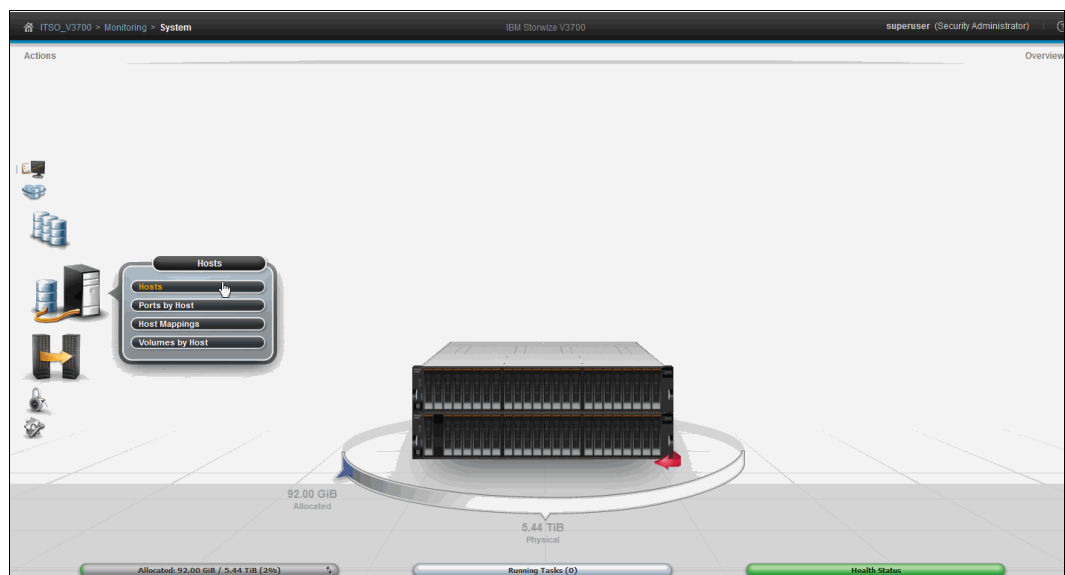

Figure 4-31 Opening the hosts view
1. From the IBM Storwize V3700 GUI, open the hosts view by navigating to **Hosts** → **Hosts**, as shown in Figure 4-31.